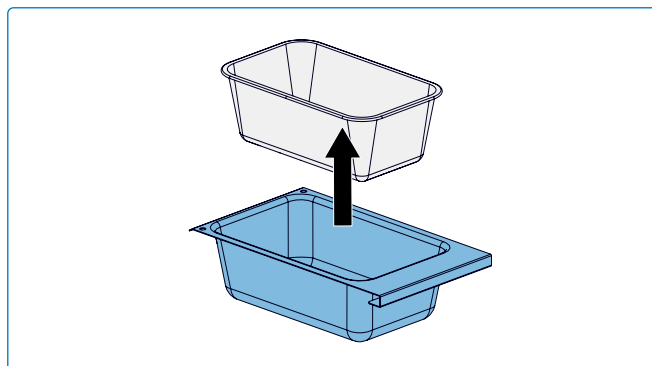

Fig. 25
3. Replace the disposable grease tray every 2–4 weeks, depending on usage (if applicable). (**Fig 25**).